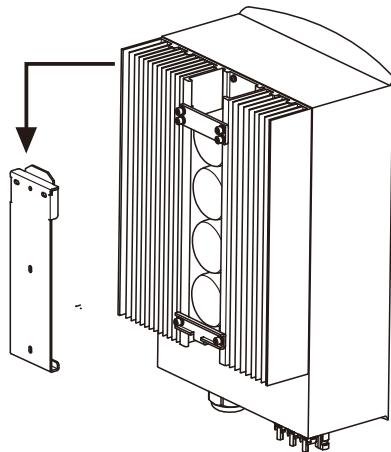

Figure 4.5 Wall Mount Bracket
4. Lift up the inverter (be careful to avoid body strain), and align the back bracket on the inverter with the convex section of the mounting bracket. Hang the inverter on the mounting bracket and make sure the inverter is secure (see Figure 4.5)